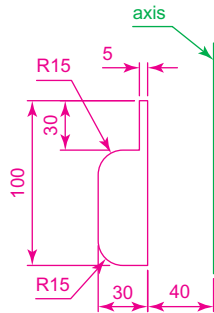

Fig. 14.8 Example of constructing a 3D model – outline for solid of revolution
2. Construct the outline to be formed into a solid of revolution (Fig. 14.8) on a layer colour **magenta** and, with the **Revolve** tool, produce the 3D model of the outline.